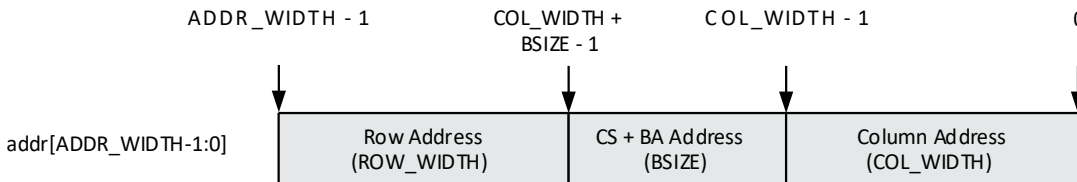

Figure 2.5. Local-to-Memory Address Mapping for Memory Access
Mapping local addresses to memory addresses is an important part of a system design when a memory controller function is implemented. You must know how the local address lines from the memory controller connect to those address lines from the memory because proper local-to-memory address mapping is crucial to meet the system requirements in applications such as a video frame buffer controller. Even for other applications, careful address mapping is generally necessary to optimize the system performance. In the memory side, the address (A), bank address (BA) and chip select (CS) inputs are used for addressing a memory device. You can obtain this information from a given data sheet. Figure 2.5 shows the local-to-memory address mapping of the Lattice DDR3 memory controller cores.